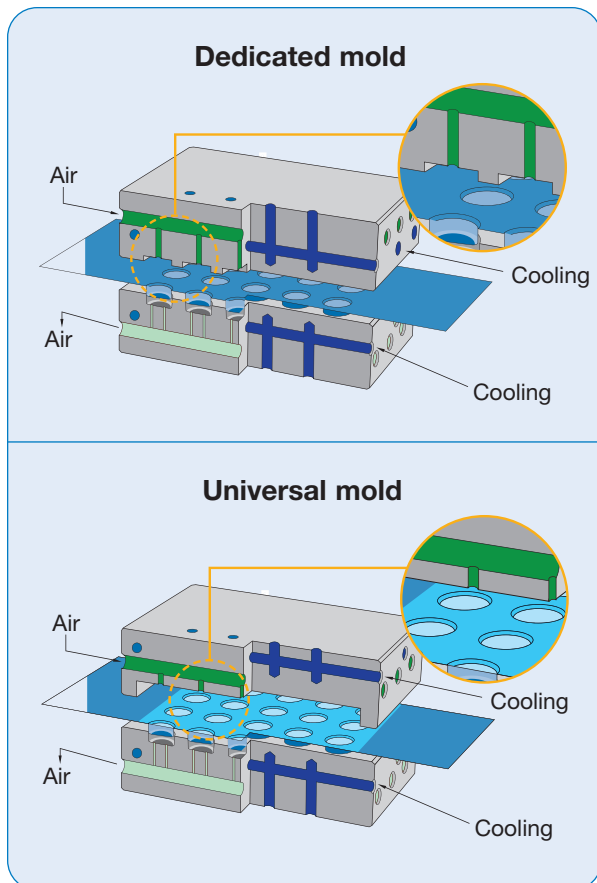

Figure 1
- For maximum flexibility, all thermoforming molds should be designed as dedicated molds¹ (*Figure 1*) and with features recommended for high-barrier materials. Dedicated molds provide more uniform thickness distribution and can be used successfully for both barrier and non-barrier materials.